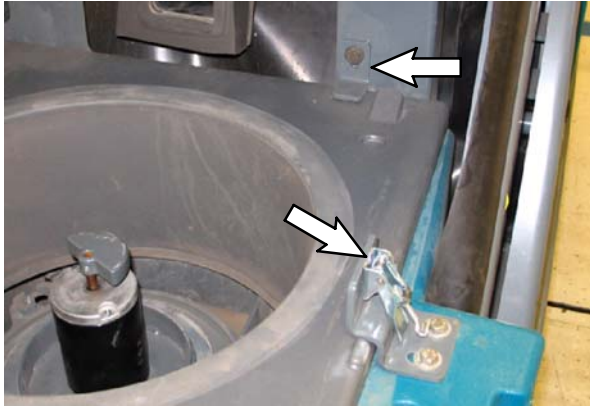

FIG. 5
12. Remove the hardware securing the cyclone assembly inside the hopper and remove the cyclone assembly from the hopper. Set the removed parts aside. Refer to Fig. 5.